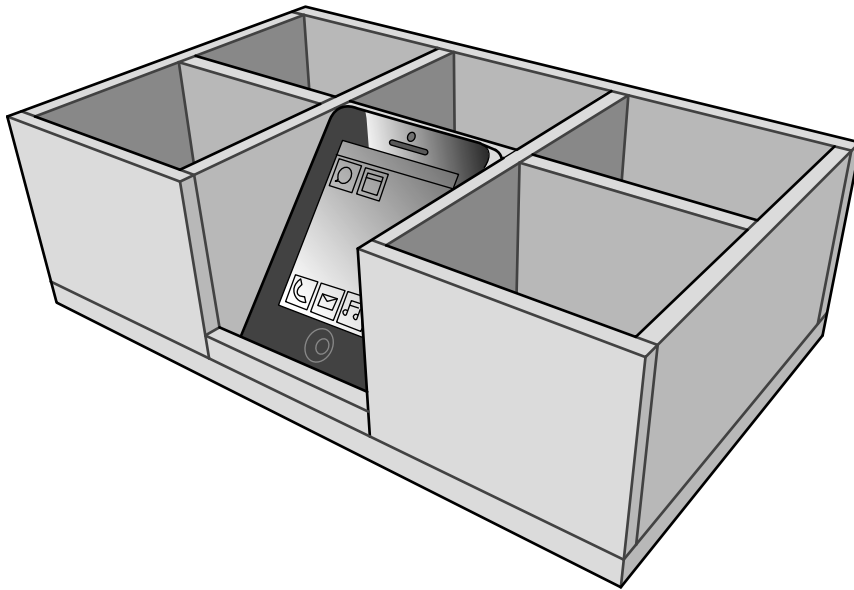

Fig. 4
18 Fig. 4 shows a storage unit for a mobile phone and accessories.
- (c) Use sketches and notes to describe how the parts of the storage unit shown in Fig. 4 would be marked out, cut, finished and fixed together.